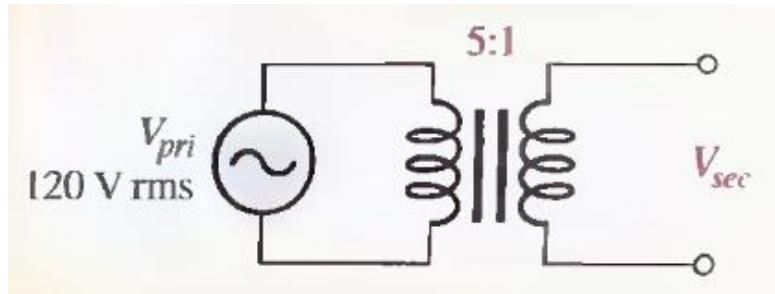

Figure 2
8. The transformer in Figure 2 has a turns ratio of 0.2. What is the secondary voltage? **(24v)**